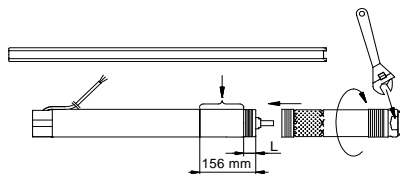

Fig. 6
1. Place the motor horizontally in a vice and tighten it. See fig. 6.
4. Screw the pump part on the motor (55 Nm). **Caution:** The pump shaft must engage with the motor shaft. A spanner may be used on the clamping faces of the pump part. See fig. 6.